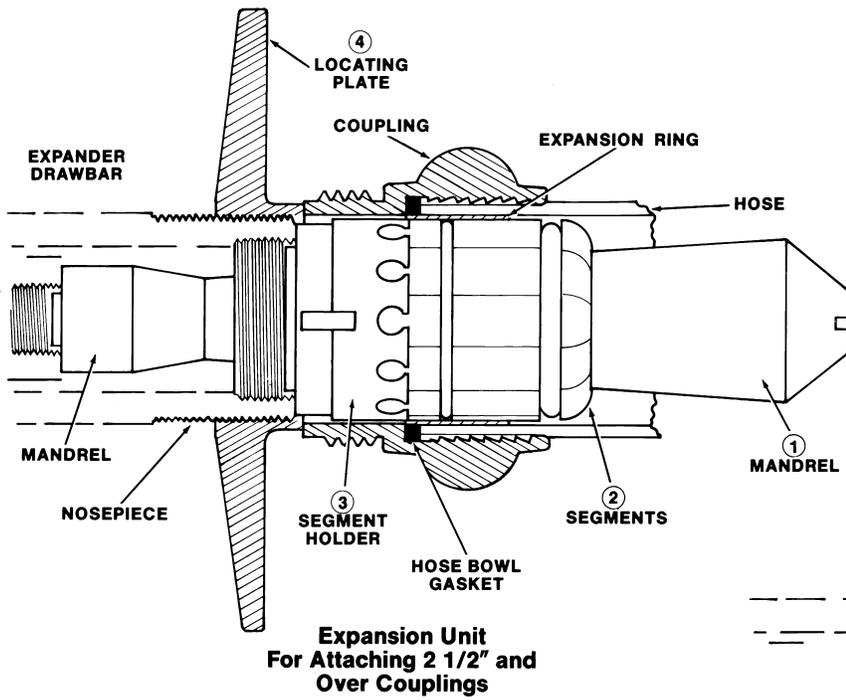
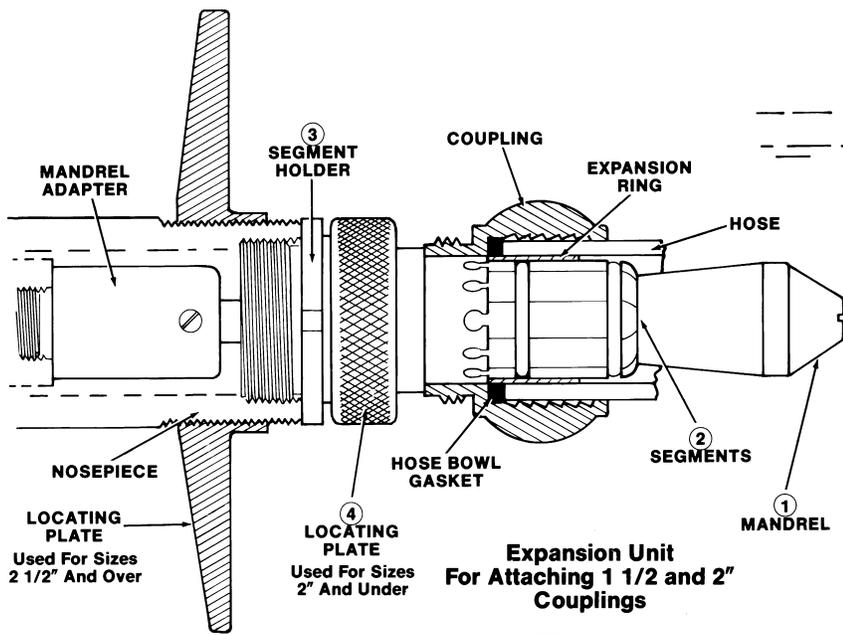

Fig. 1
Fig. 4
1. Study attached Fig. 1 & Fig. 4 to become familiar with the names of expansion unit parts.
3. Oil keyway grooves on segment holder (3). Apply a coat of grease (silicon or graphite) to mandrel (1) and insert into segment holder as shown on Fig. 1. Apply grease and oil lightly as needed for smooth operation. (Note: Grease fitting on top of expander body will require occasional greasing.)
Note: On sizes 2" and under, the locating plate is shown on Fig. 4.